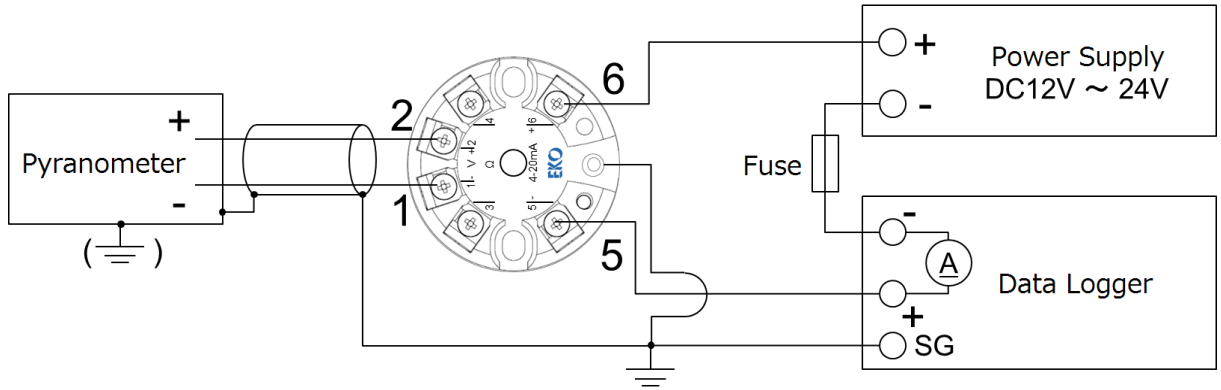

Figure 5-2. Wiring (when using current meter)
- Using Current Meter: As shown on Figure 5-2, insert the current meter directly to the 4-20mA current loop circuit and measure its value.
When using measuring device with current input (the wiring connection case of Figure 5-2):